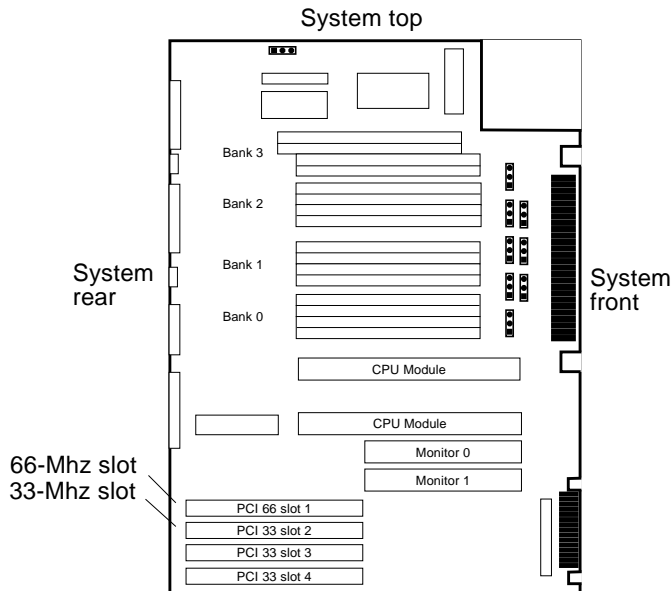

FIGURE 2-1 Ultra 60 PCI 66-Mhz and 33-Mhz Connector Locations
3. **Locate the Ultra 60 PCI 66-Mhz and 33-Mhz connectors (FIGURE 2-1).**